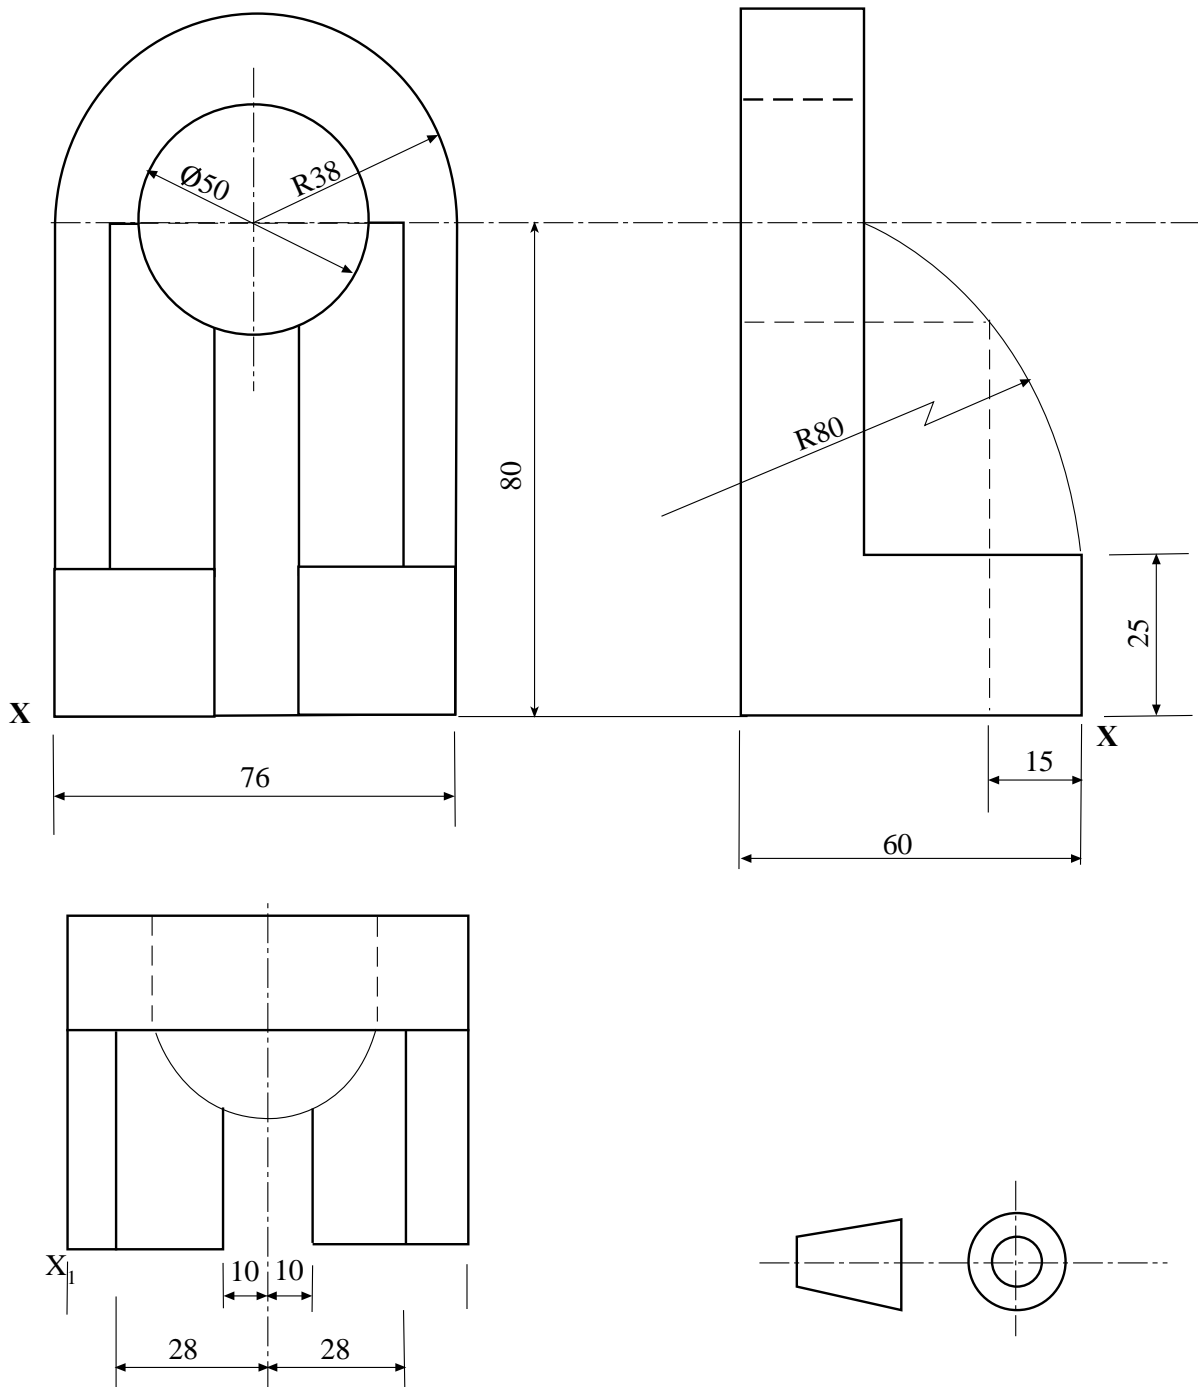

Figure 6
6. **Figure 6**, shows three views of a bracket in first angle projection. Draw an isometric projection of the bracket with **Z** as the lowest point on the drawing. Use an isometric scale. [20]